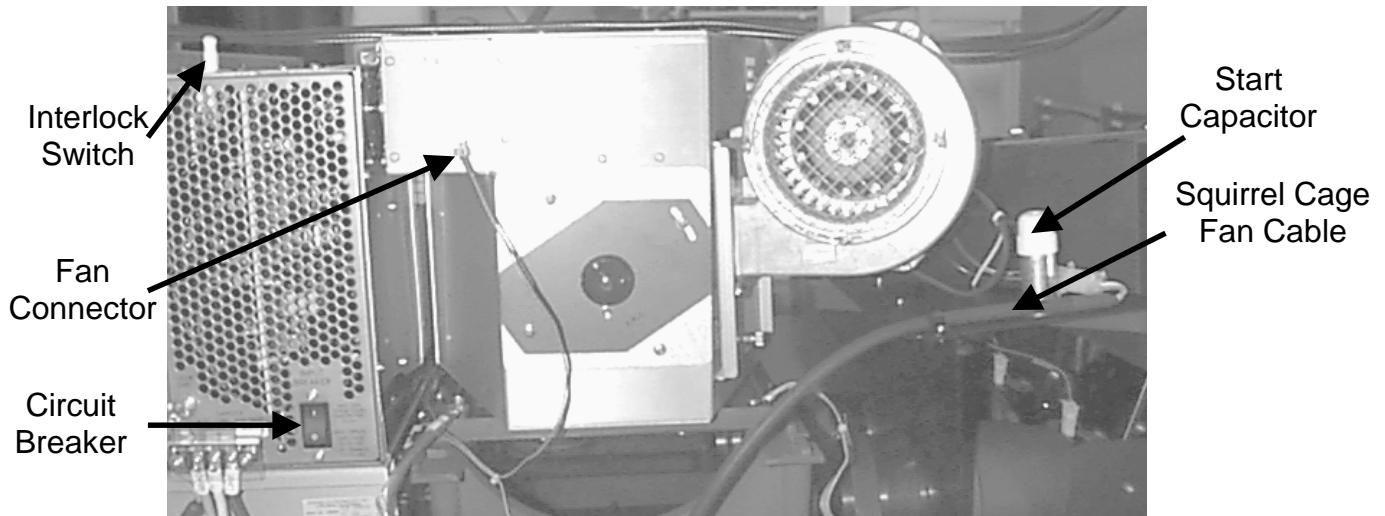
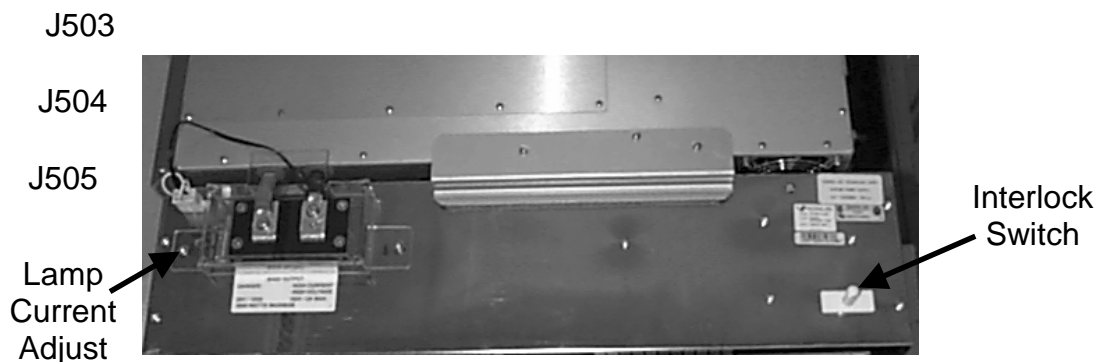
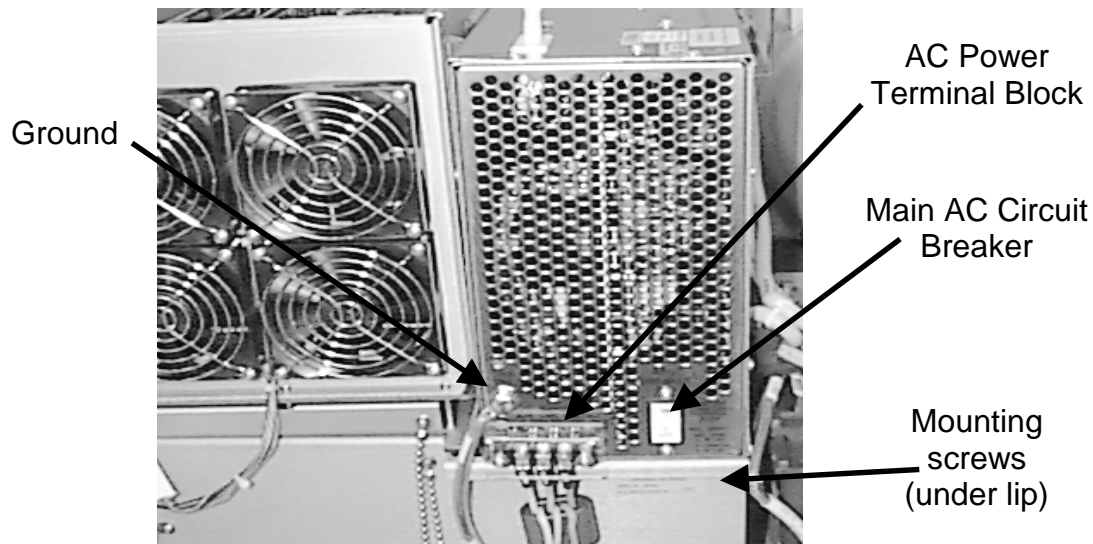

Figure 4-4 Model 340SC and 370SC Arc Lamp Assembly
Figure 4-5 System Power Supply-Arc Lamp Connection.
Figure 4-7 System Power Supply (right side of projector)
Refer to Figure 4-4 and Figure 4-5 throughout the procedure below and to establish right and left orientation. Label any connectors prior to removing to ensure they are reconnected correctly.
8. Cut the cable tie wrap (not shown in Figure 4-4 or Figure 4-5) at the bottom rear of the Arc Lamp assembly (beneath the fan on the bottom rear of the Arc Lamp assembly).
10. Remove the two (2) ground straps (not shown in Photo 4-2 or Photo 4-3) from the top, right side of the Arc Lamp assembly housing. Leave these straps attached to the Collimating Lens housing.
11. Remove the two (2) hex bolts on the left and right side of the Arc Lamp assembly that attach the Arc Lamp assembly to the mounting rails (lower front of the Arc Lamp assembly). When removing the hex bolts, also remove the ground straps and leave them attached to the Relay Lens bracket.
To remove the system power supply (see *Figure 4-4* and *Figure 4-5* and *Figure 4-7*):
5. Remove the Plexiglas cover from the AC input terminal block located on the right side of the power supply (see *Figure 4-7*).
6. Ensure power is disconnected then remove the three (3) AC input wires from the AC terminal block:
7. Remove the grounding cable from the right side of the power supply (*see Figure 4-7*).
8. Loosen and release the two (2) captive screws at the base of the power supply, located on the right side below the AC terminal block (*under the mounting bracket—Figure 4-7*).
CAUTION! Do not bump the CRT cooling bellows while removing the electronics module! The CRT cooling bellows (refer to Figure 4-4) are fragile and easily damaged. If damaged, the CRT must be replaced and will not be covered by warranty. Use extreme care removing and replacing the electronics module and CRTs.
To remove a Model 330 CRT Assembly (refer to Figure 4-4):